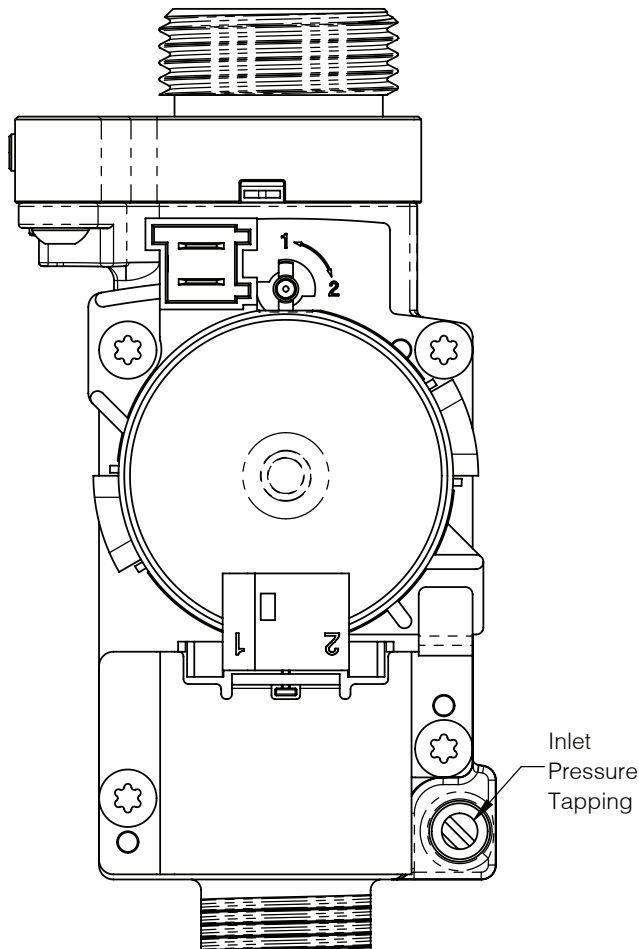

Figure 15-8: Gas valve inlet pressure tap
15. Check inlet gas pressure (Figure 15-8).